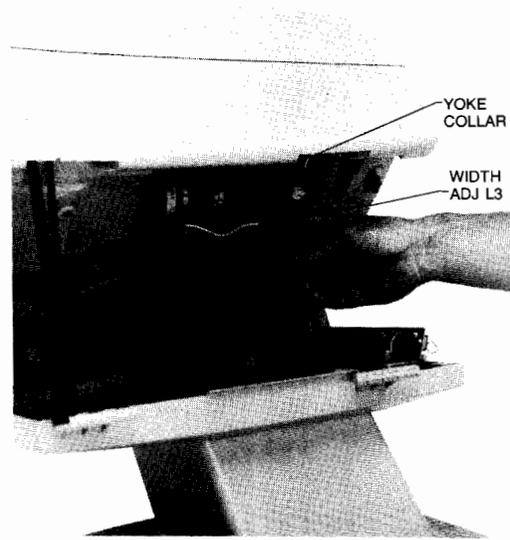

Figure 5-4. Location of Raster Width Adjustment and Yoke Collar
7. Use the alignment tool to adjust the width adjustment on the Sweep PCA (figure 5-4) to expand or contract the display in the horizontal dimension.
9. To adjust a tilted display, the yoke assembly must be rotated on the CRT neck by its plastic donut-shaped body, but first the yoke collar screw (figure 5-4) must be loosened. After the adjustment has been made, retighten the yoke collar screw.